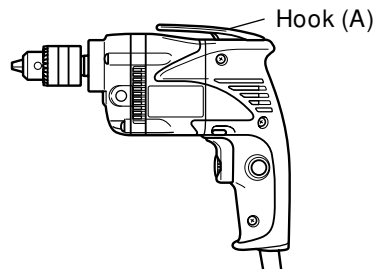

Fig. 8
For hook (A) (top-attaching) (Fig. 8)